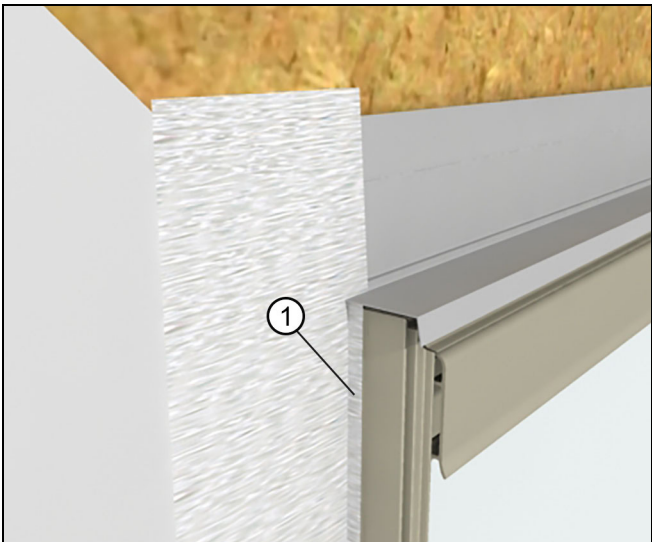

Figure 60
3. Lap vertical strips of flashing onto the unit or casing and out over the weather resistive barrier. Make small cuts at the head jamb to allow the flashing to fold back onto the exterior. See Figure 60.